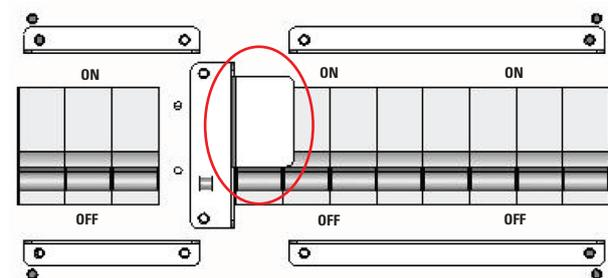

Fig. 37. Mechanical lock of the UPS maintenance bypass switch.
3. Remove the mechanical lock of the UPS manual bypass switch (Q5): unscrew the screws provided and remove the metal cover (see Fig. 37).
10. Replace the mechanical lock of the UPS manual bypass switch: screw the metal cover in using the screws provided (see Fig. 37).